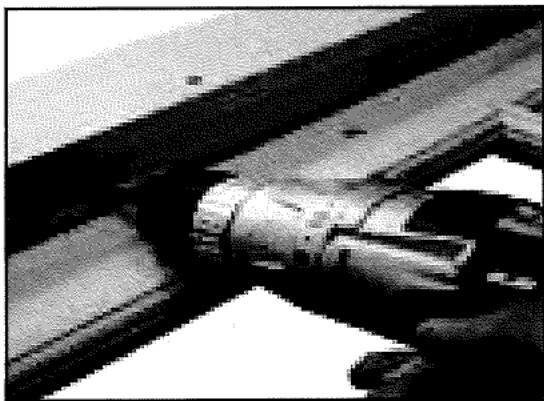

Fig A13
21. Secure the window to the frame using 3x 25mm screws per hinge, (fig. A13) again through the predrilled holes in the hinge.